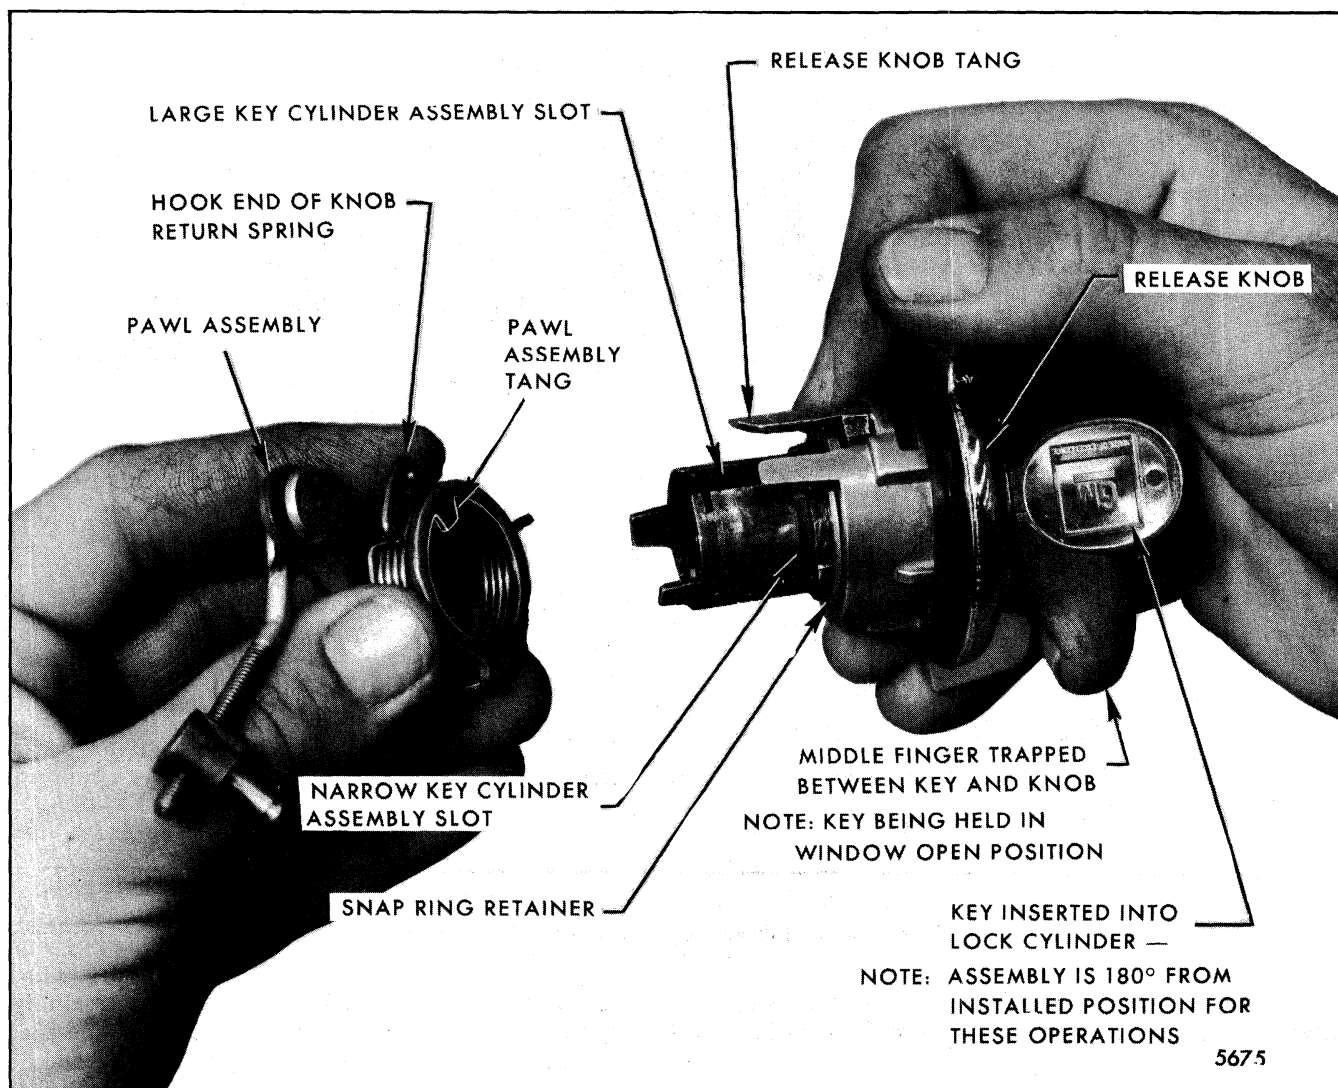

Fig. 7-149-Loading Pawl - Spring Assembly to Key Cylinder
5. Turn key to "window open" position and place middle finger between key and release knob as shown in Figure 7-149.